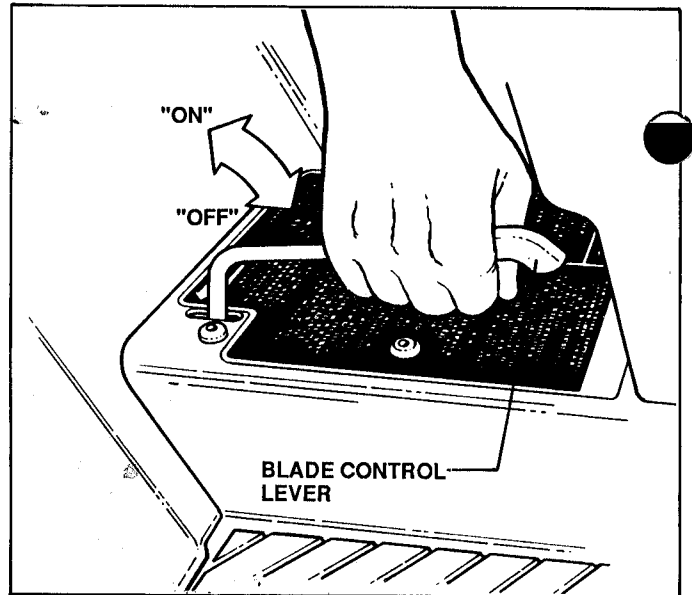
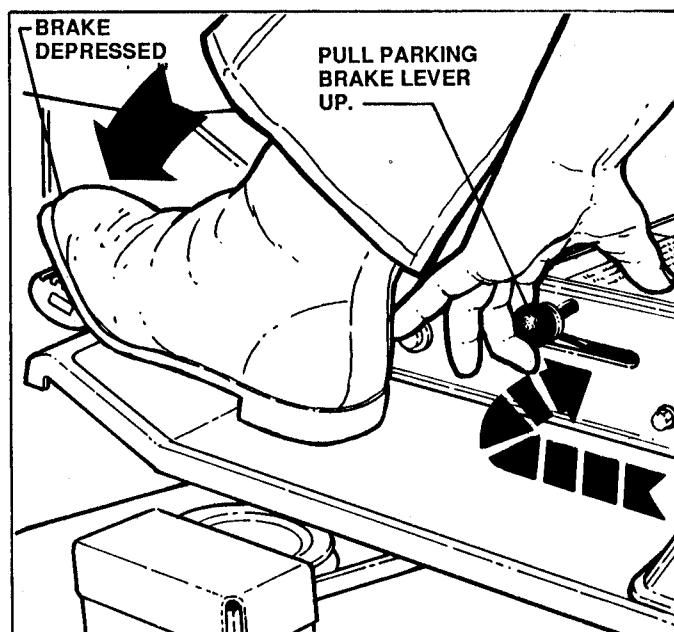

FIGURE 4
FIGURE 7
MOWER BLADE: *STOP MOWER BLADE* by pushing BLADE CONTROL lever downward to "OFF". See Figure 4.
1. PUSH **BLADE CONTROL LEVER** downward to "OFF" position (Fig. 4) and fully depress the **CLUTCH/BRAKE** pedal (Fig. 7), so that Safety Interlock System will allow engine to start.
Depress **CLUTCH/BRAKE PEDAL**. Pull **PARKING BRAKE LEVER** "UP" while releasing pedal. See Figure 7.